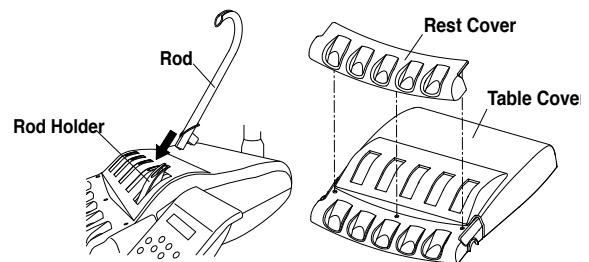

Fig.6-26 Rod and Rest Cover
(7) Rod and Rest Cover for Rod Type (Fig.6-26)